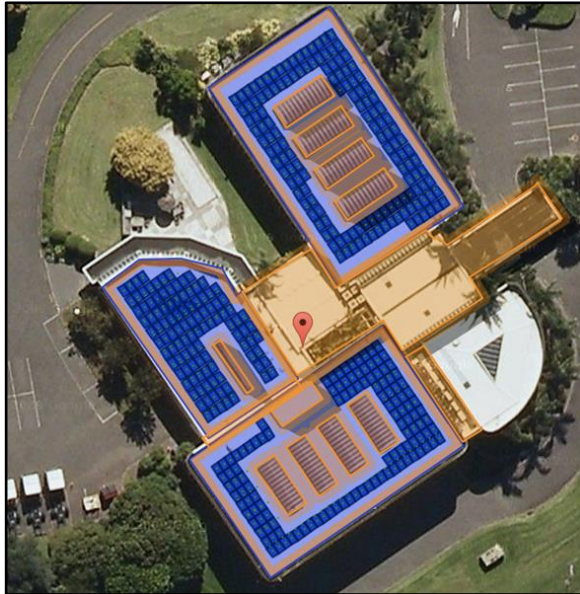

Figure 5: Non-Optimized Site Layout
- Mount the microinverter bracket side up (as shown figure 5) and under the PV module, protecting them from rain and sun. Allow a minimum of 1.9 cm between the roof and the microinverter. Also allow 1.3 cm between the back of the PV module and the top of the microinverter